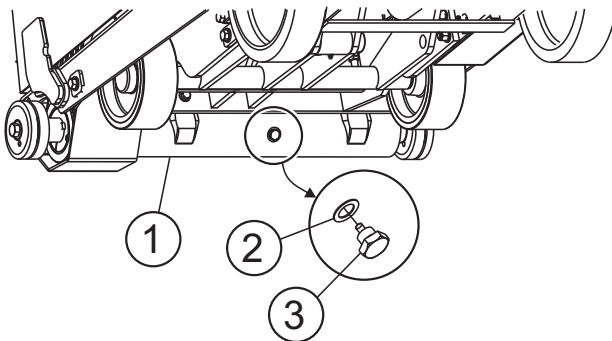

Figure 67. Hydraulic System Drains
1. Place an oil pan beneath the Blade Shaft Housing (Figure 67, item 1).
2. Remove the drain plug from the bottom of the blade shaft housing (item 3)